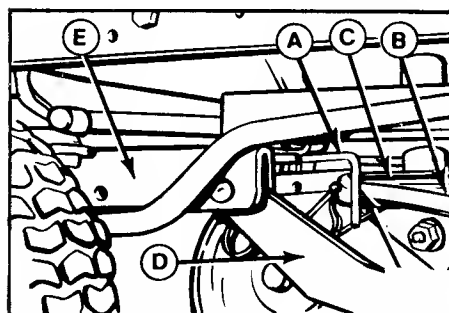
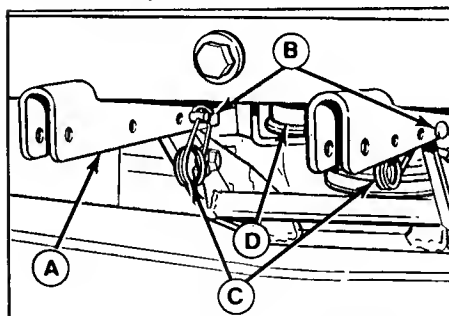
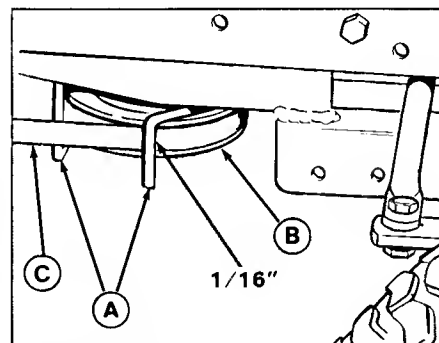

Figure 3. L.H. Belt Stop - All Mowers
Figure 4. Mower Hitch Attached
Figure 5. R.H. PTO Pulley Belt Stop - 36" Mower
9. Insert the mower hitch arms in the tractor hitch (figure 3). Align the holes in the hitch arms with the rear holes in the tractor hitch. Insert the pins (B, figure 4) from the outside and install the clips (C).
10. Slip the mower drive belt onto the engine PTO pulley (C, figure 3) loosening belt stops as necessary. The left-hand belt stop is item A in figure 3. The right-hand belt stop is shown in figure 5 (36" mower) or figure 6 (42" mower).